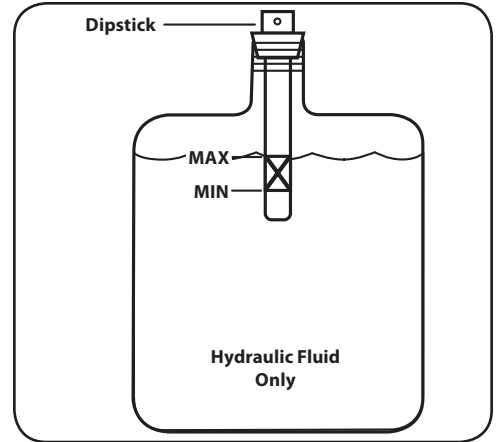

Figure 5-4
13. If necessary refill the reservoir within range marked on the dipstick. See Figure 5-4.